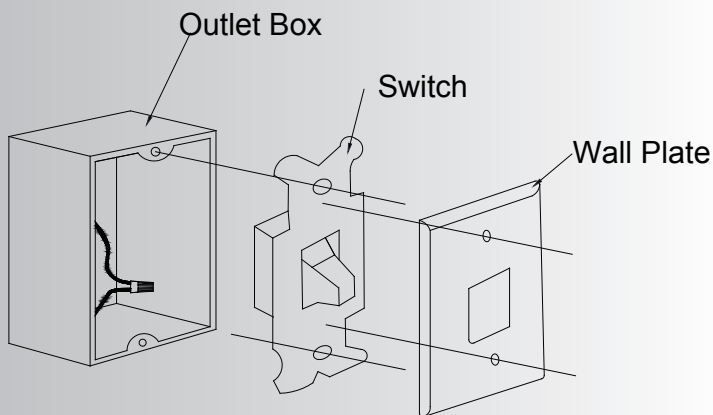

Fig. 24
Step 1. Remove the existing wall plate and the old switch from the wall outlet box. Wire nut the BLACK leads (hot) together and push back inside the outlet box. (Fig. 24) Or Select the desired location with a new wall outlet box.